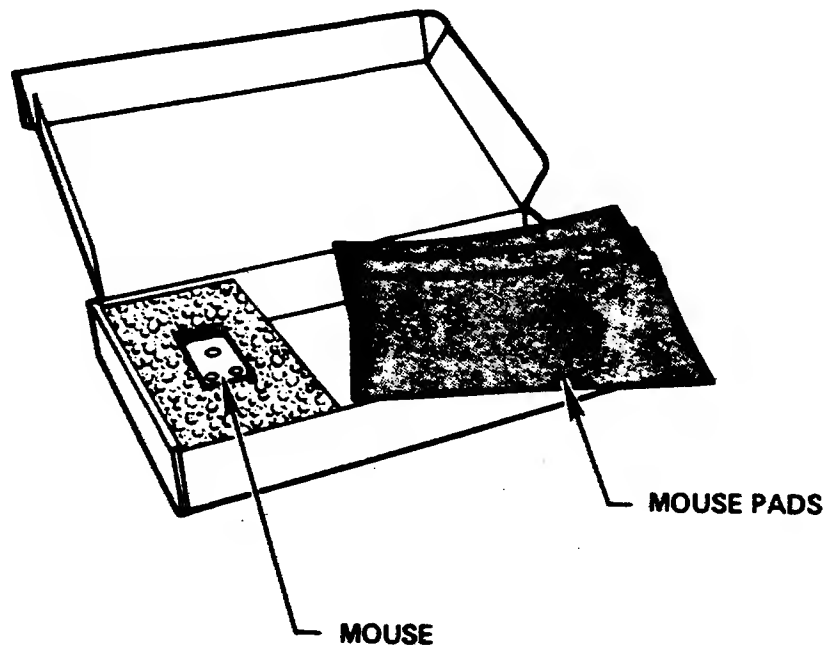

Figure 2-4. Contents of Optical Pointer Box
1. Unpack the mouse and mouse pads (both the optical paper and mechanical plastic pads) from the box labeled Xerox 1186 Installation Kit (Figure 2-4).